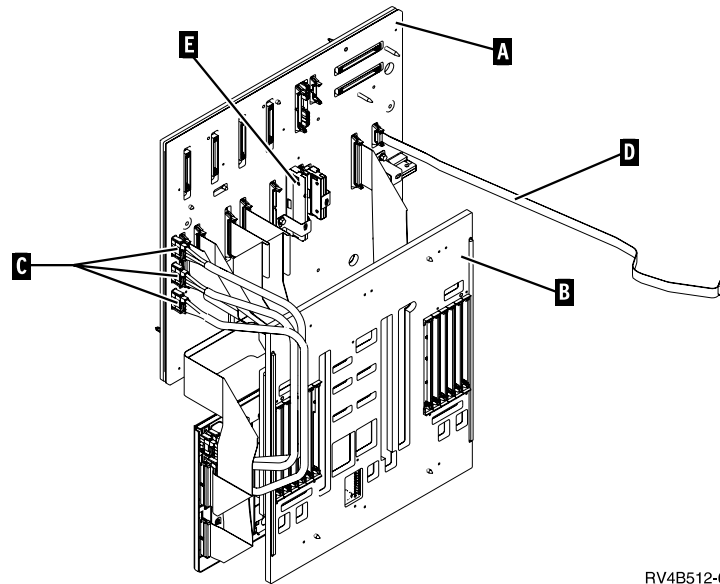

Figure 71. Models 640, 730 and S30 Backplane
30. Refer to Figure 71 on page 813 to see where the cables are connected to the SPD/Disk Unit board.